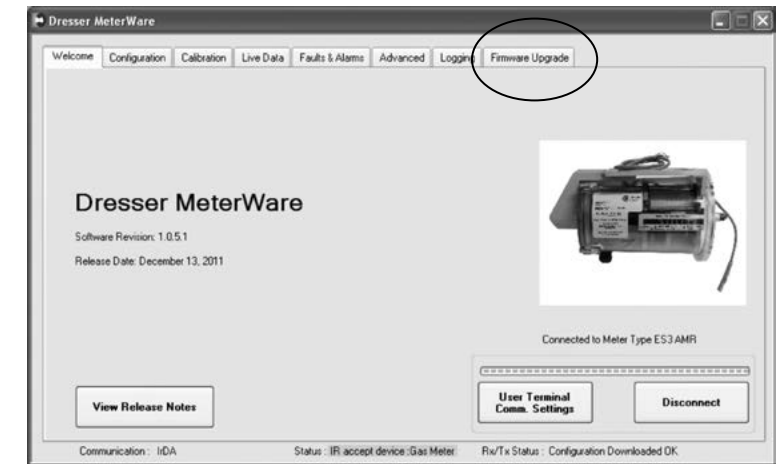

Figure 15.2 - Firmware Upgrade Tab
- A. From the Welcome screen in the MeterWare software, select the **Firmware Upgrade** tab. Refer to Figure 15.2.